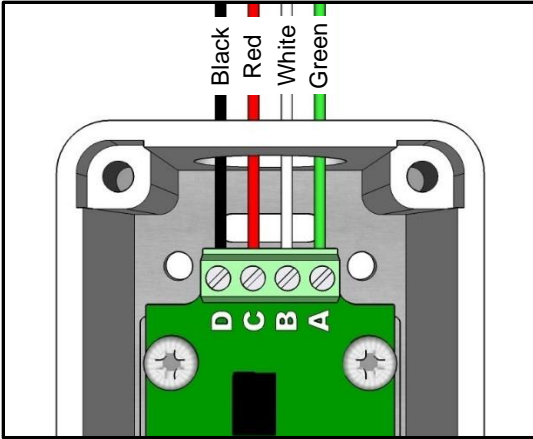

Figure 28
- 2** In the 4 wire safety circuit from junction box near each opening is a black, red, white, and green wire. Connect the 4 wires to the terminal block in the RDI interlock at the first opening. **(see Figure 28)**